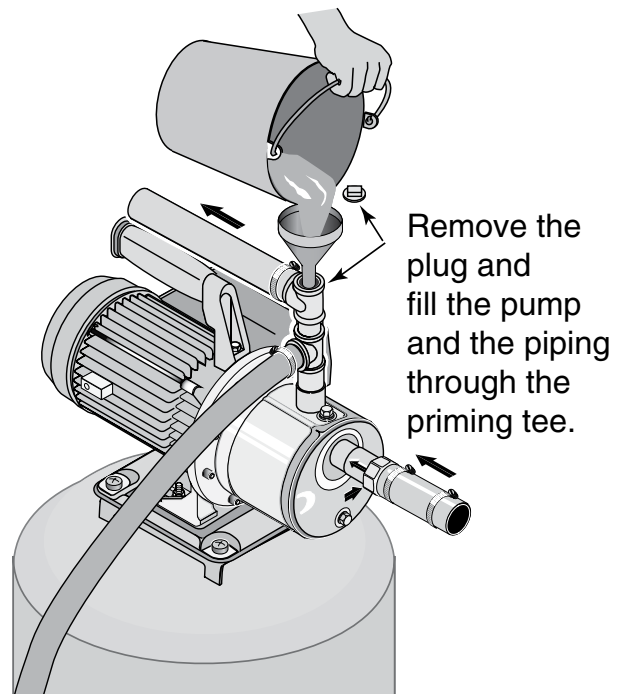

Figure 5 - Prime the Pump
1. Remove the priming plug from the priming tee and fill the pump. Fill all piping between the pump and the well and make sure that all piping in the well is full. If you have also installed a priming tee in the suction piping, remove the plug from the tee and fill the suction piping. See Figure 5.